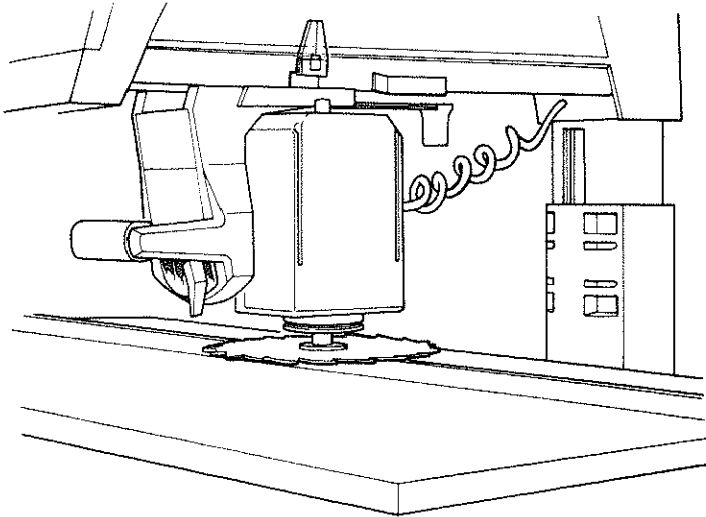

Fig. 68
3. Unlock the *bevel lock*, and turn the *motor* so that the *blade* is parallel to the *table*. (Figure 68)